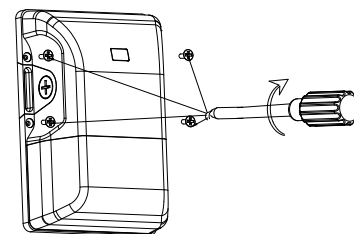

Fig. 6B
7. Close the luminaire by screwing the four screws (Fig. 6B).
7. Fermer le luminaire en vissant les quatre vis (Fig. 6B).